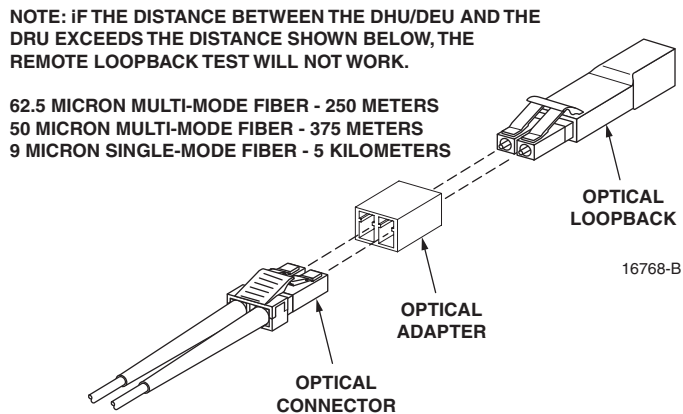

Figure 26. Optical Fiber Loopback Test
11. Clean the optical fiber connectors and then using an LC optical adapter, connect the loopback to the connectors as shown in Figure 26.